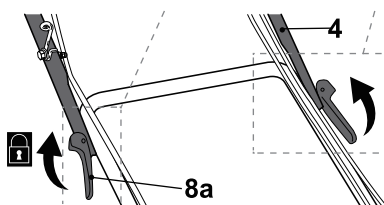

Fig. 4
6. Unfold the upper handle bar (4).
7. Lock the fixation levers (8a) to secure it (Fig. 4).